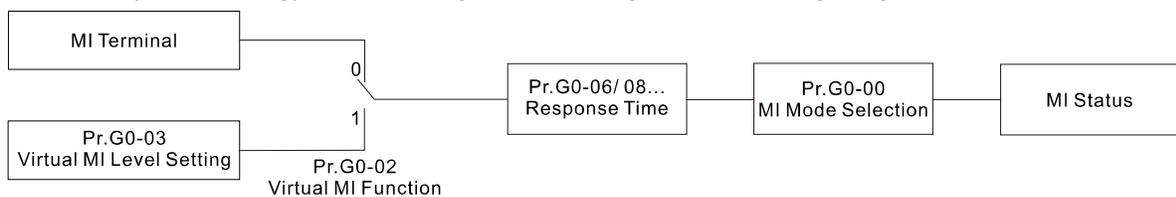

Figure 1 - MI signal processing diagram
- 📖 The entity and virtual MI signals determine the MI enable status through the response time and mode selection (level setting). Refer to Figure 1 - MI signal processing diagram for the MI action logic.
- 📖 When MI signal changes (for example from low to high), it is regarded as transitioning to High only when the High status remains for the time longer than the MI response time. Refer to Figure 1 - MI signal processing diagram in Pr.G0-00 for the MI action logic.